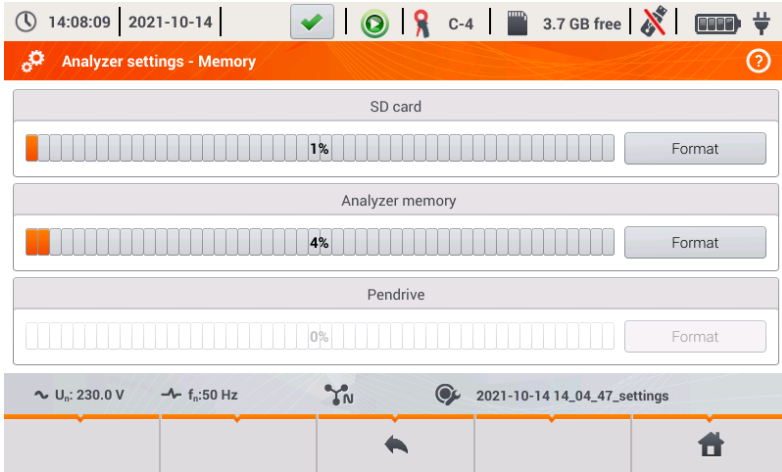

Fig. 16. Analyzer settings - Memory.
- **MEMORY** – displays information on the space on SD memory card, internal memory of the analyzer and possibly on a connected USB storage device (flash drive) (Fig. 16). Each of these three memories may be formatted by clicking **FORMAT** button. After acknowledging the warning message on deleting all data from the selected memory, the formatting process is started. All files stored on the specified memory will be permanently deleted.